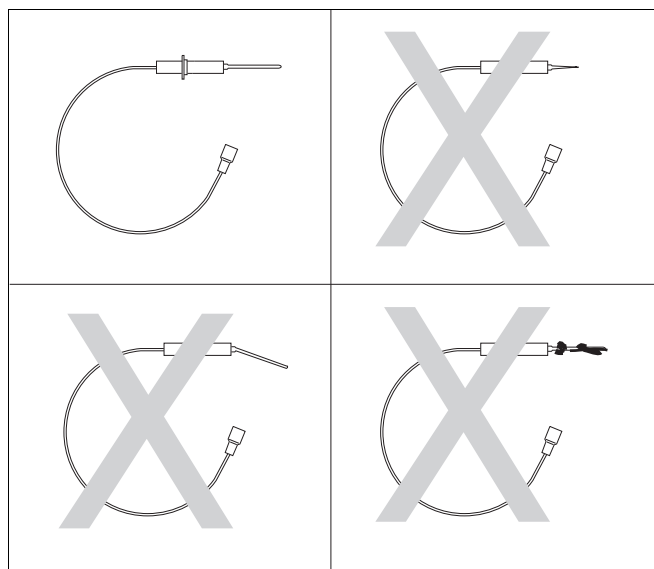

fig. 31 Checking the ionization electrode
- Check the ionization electrode for contamination, wear or damage (see fig. 31).